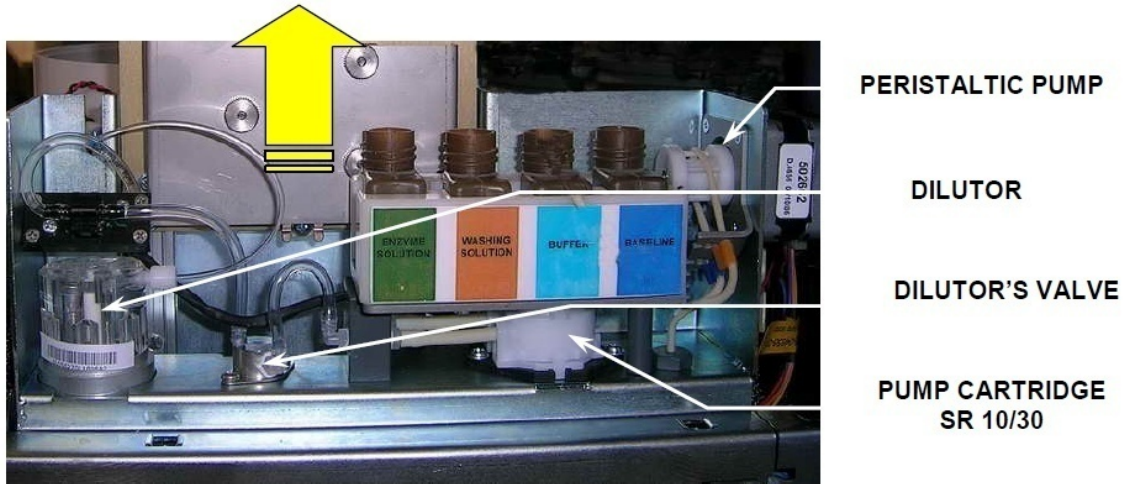

Figure 7
1. Before installing or replacing electrodes, remove the ISE module as shown in **Figure 7** and **Figure 7-1** (BT1500) and unscrew the thumbscrews securing the metallic shield.